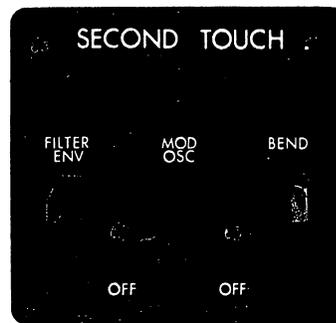

Fig. 7 Second Touch Panel
**IV. SECOND TOUCH:** The second touch keyboard permits you to selectively initiate pitch bend, vibrato, and timbre changes directly from the keyboard. Set SynKey as shown in Figure 5, and refer to Figure 7.